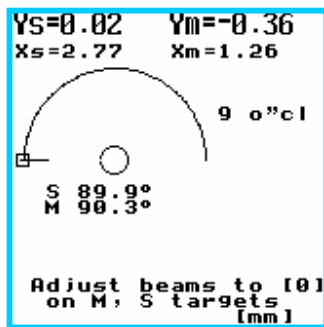

Fig 16.
Select program option  to begin new alignment task. The laser beams turned on now. Using fine adjusting screws on the Measuring transducers, adjust the laser beams to the centers of detectors shutter cover one at a time, refer Fig. 1a & 1b. Once laser is centered on both transducer, open the shutters. The screen starts display detectors X & Y coordinate position readings for both transducers (S) & (M), see Fig.16 . Turn the shaft to the 1st position as per display, to in-line the blinking indicator with fix line indicator on screen and press  to record the reading for 9 o'clock position Fig 16.